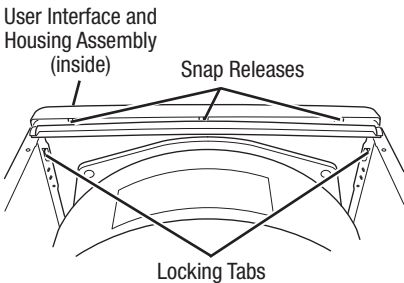

Figure 16. Remove the console panel to access the user interface and housing assembly.
3. The console panel has two locking tabs on the left and right rear, one locking tab on the bottom (hidden), and three snap releases across the top. See figure 16. Press the locking tab on the right rear, and gently rotate the console panel up as you pull the top free of the three snap releases, finally pressing the locking tab on the left, and lift the console panel off.